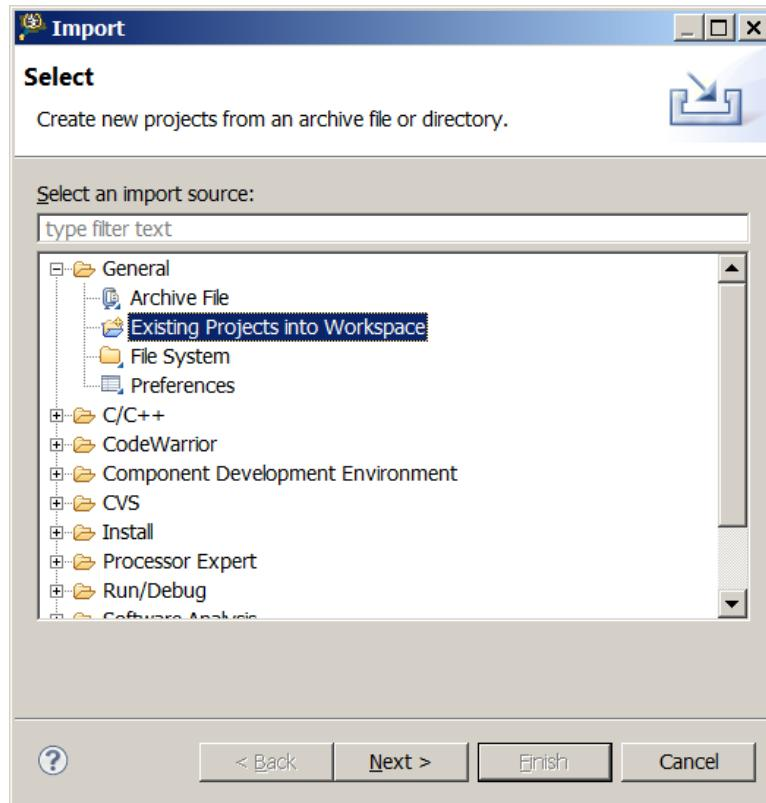

Figure 8. Import dialog window
4. Import the project using File-> **Import** option, see Figure 8 select **General->Existing Projects into Workspace**